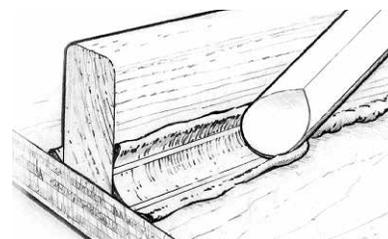

Figure 13 Shape and smooth the fillet with a rounded filleting tool.
2. Shape and smooth the squeezed-out thick epoxy into a fillet by drawing a rounded filleting tool (804 Mixing Stick) along the joint, dragging excess material ahead of the tool and leaving a smooth cove-shaped fillet bordered on each side by a clean margin. Some excess filleting material will remain outside of the margin (Figure 13). Use the excess material to refill any voids. Smooth the fillet until you are satisfied with its appearance. A mixing stick will leave a fillet with about a $\frac{3}{8}$ " radius. For